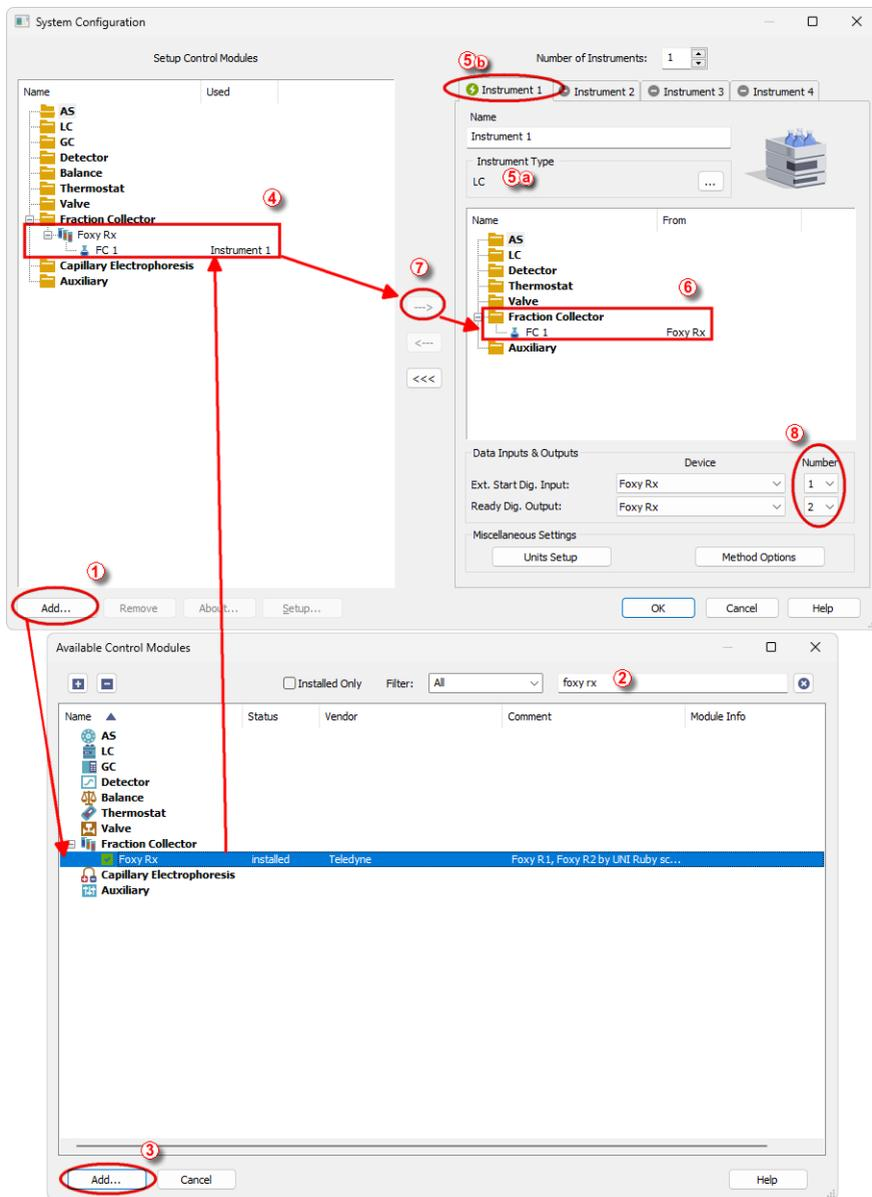

Fig. 3: How to Add Teledyne Foxy R1 / R2 Control Module
- Press the *Add* button (① on **Fig. 3** on pg. 4.) to invoke the *Available Control Modules* dialog.
- You can specify the search filter (②) to simplify the finding of the driver.
- Select the correct item and press the *Add* (③ on **Fig. 3** on pg. 4.) button. Each device with already created UNI profile should have its own item named accordingly in the *Available Control Modules* dialog.